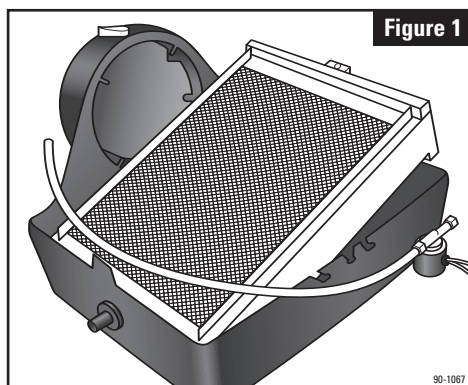

Figure 1
1. Remove front cover by pressing center tabs on top and bottom of the cover (1) and base (2). Pull feed tube (3) out of the water distribution tray (4). Tip the Water Panel® Evaporator assembly forward and lift it out of the humidifier. (See Figure 1)
2. The humidifier comes assembled for left side discharge. If converting to right side discharge, the base can be rotated so round collar is facing to the right. Swap the location of the hole plug (10) and drain spud (9) if using a right side discharge. To remove the cap, push and twist from inside the housing while lifting the cap up slightly on the outside. To remove the drain spud, twist and push from the outside of the base.